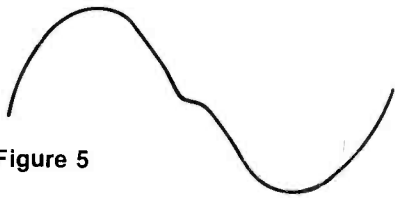

Figure 5
9. The voltage waveform in Figure 5 is supposed to be a sine wave. The distorted wave-shape shown is most likely to occur in